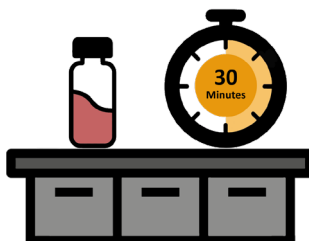

Figure 5. Step 6 Reconstitution Time.
6. Allow the mixture to sit for 30 minutes at room temperature to reconstitute (Figure 5).